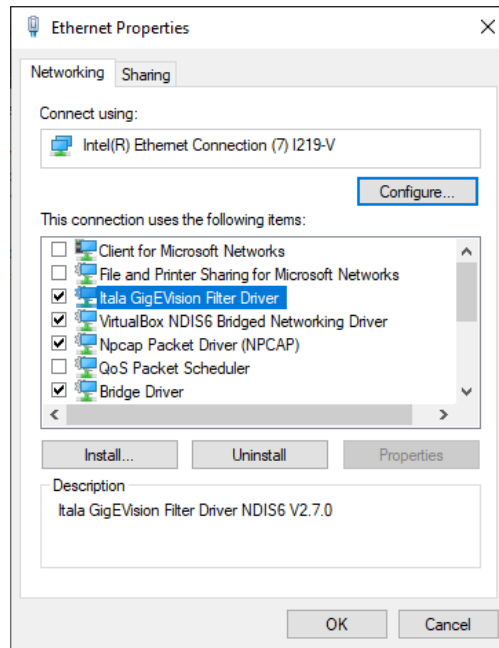

Figure 14: Successfully installed filter driver.
You can check for successful installation of the filter driver on your Ethernet connection property window. Go to *Control Panel > Network and Sharing Center > Change adapter settings*, right-click on your Ethernet connection and select *Properties*. In the *Networking* tab you should see the filter driver entry with a selected checkbox, as shown in Fig.14.
4. At the end of the installation, the filter driver will appear in the NIC property window (Fig.14).